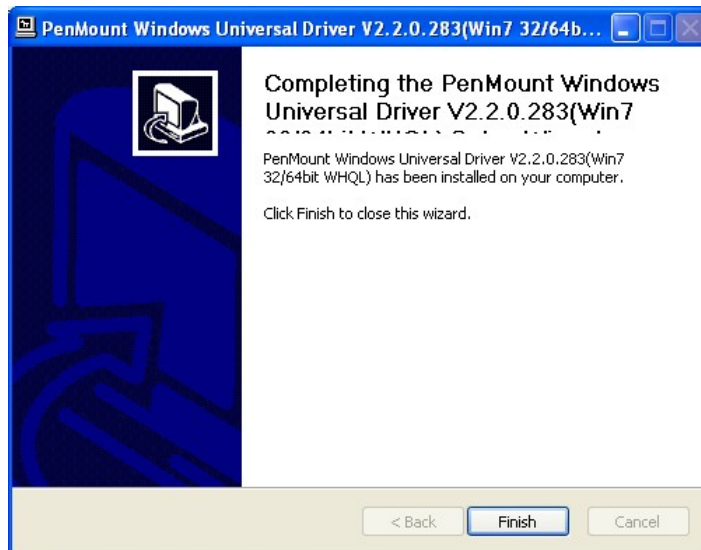

Figure 5-6: Finish Installation
**Step 10:** When the installation is complete, the complete screen appears. See **Figure 5-6**.